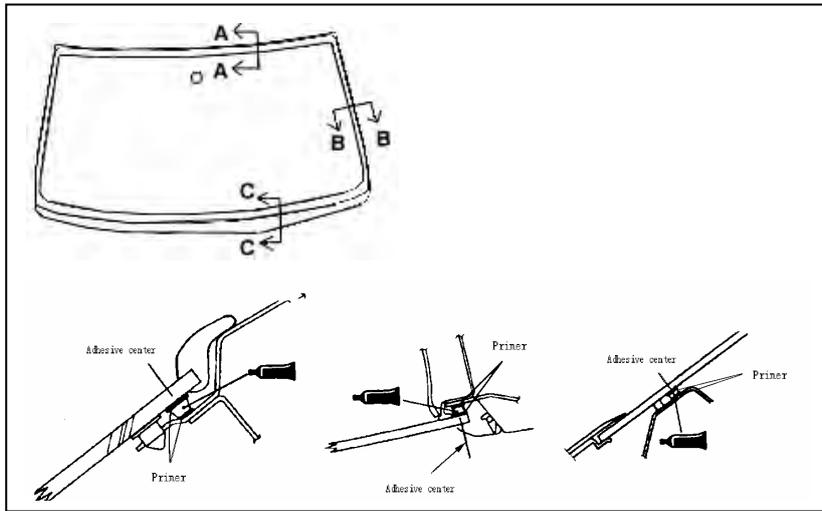

Fig.19-1
- The removal sequence of windshield glass as shown in Fig.19-1.